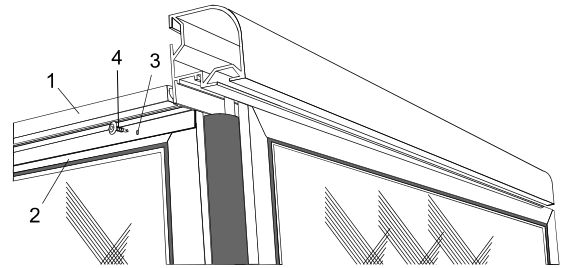

Fig. 12
7. Install side extrusions (1) onto top of screen panels (2) of each side wall (see Fig. 12).